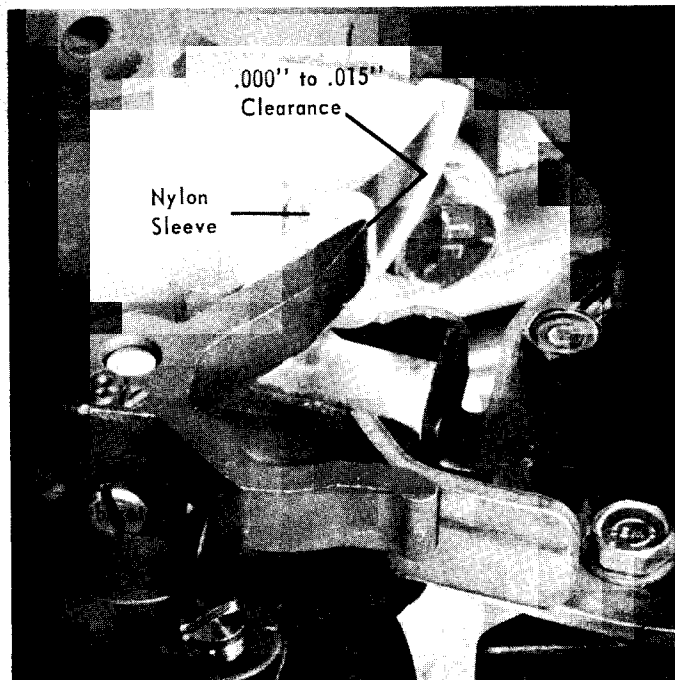

Figure 5. Second Throttle Pickup Tab Adjustment
16. Bend second throttle pickup pin (with nylon sleeve) against carburetor cluster (.000"-to-.015" gap). (Figure 5)